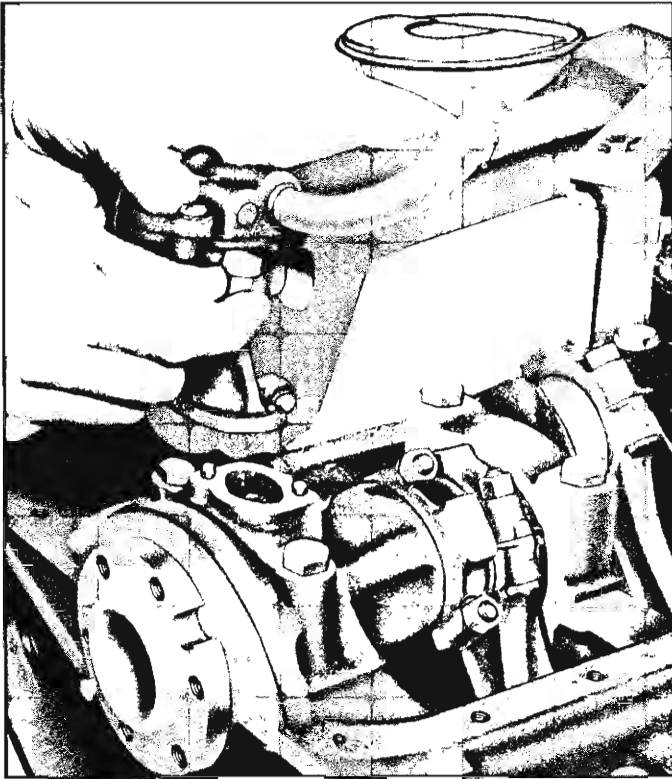

Fig. 140—Oil Pump Removal and Installation
2. Remove pump to rear main bearing cap bolt and remove pump, extension shaft and collar, as shown in Figure 140.
6. Assemble pump and extension shaft to rear main bearing cap as shown in Figure 140, aligning slot on top end of extension shaft with drive tang on lower end of distributor drive shaft.